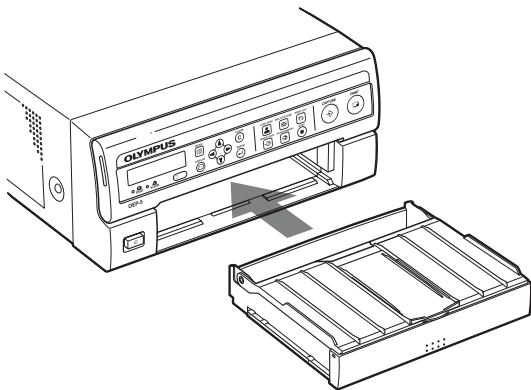

Figure 3.15
- 5** Insert the paper tray into the color video printer (OEP-5) until it clicks (see Figure 3.15).